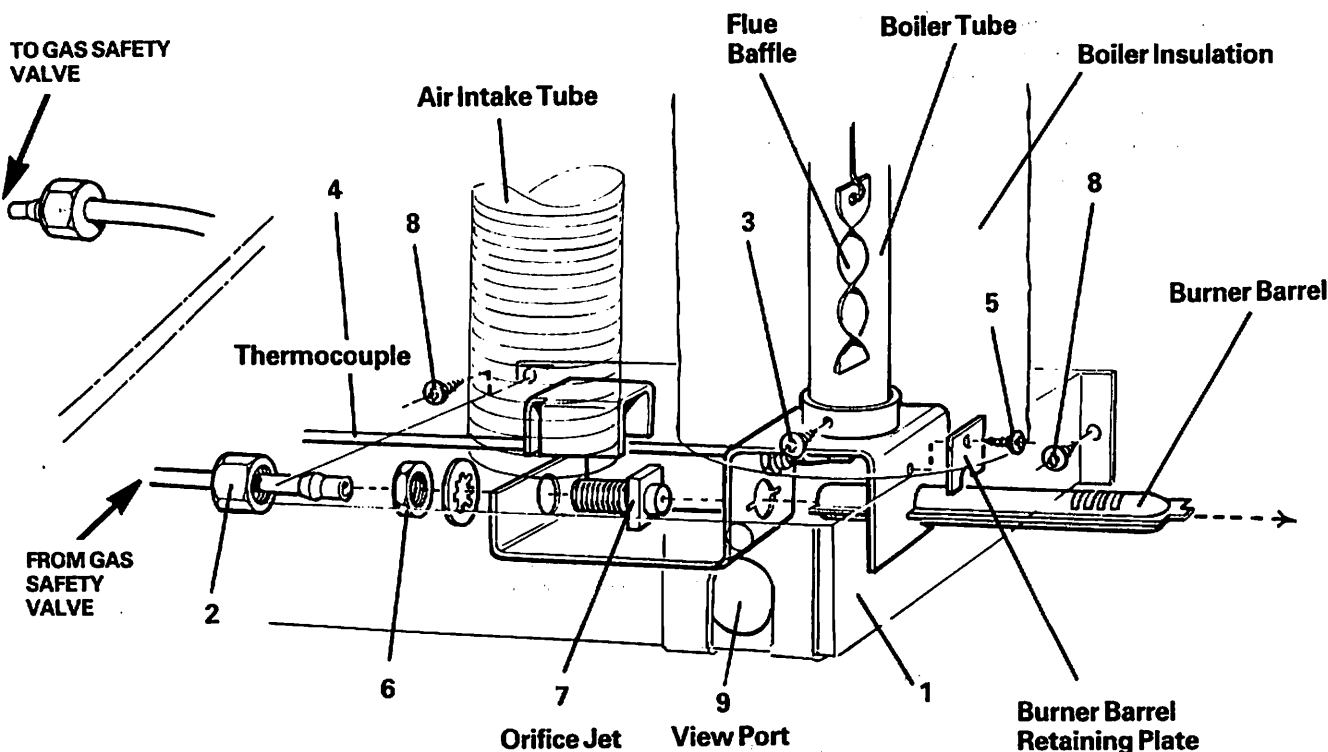

FIG. 18
Once or twice a year, look through the flame viewing opening (FIG. 18, Page 15) in the burner box and examine the appearance of the burner flame which should be predominantly blue in color when the gas thermostat knob is set at "MAX". If this is not the case, the flue, burner, and jet, etc. should be cleaned as follows:
A stainless steel baffle (FIG. 18, Page 15) is located in the flue tube of the boiler of the cooling unit to correctly distribute heat from the burner. The baffle is suspended on a length of stainless steel wire from the top of the flue tube, and is positioned so that the bottom edge of the baffle is 3" (76mm) above the bottom of the flue tube.
5. With a phillips screwdriver, remove the 2 screws (8, FIG. 18), then, from the rear, carefully withdraw the burner box (1) with the flexible air intake tube attached to it, and clean the inside of the burner box of soot and other deposits.
6. Unscrew the gas pipe union nut (9) then, pushing the boiler insulation upward sufficiently to give access, undo the screw (3), releasing the burner assembly from the bottom of the boiler tube.
7. Taking care not to strain the thermocouple tube (4), drop the burner assembly away from the boiler, just far enough to give access for the following operations.
8. Remove the screw (5) from the burner barrel retaining plate, then withdraw the burner barrel. Examine and clean the burner barrel by brushing and blowing it out with air.